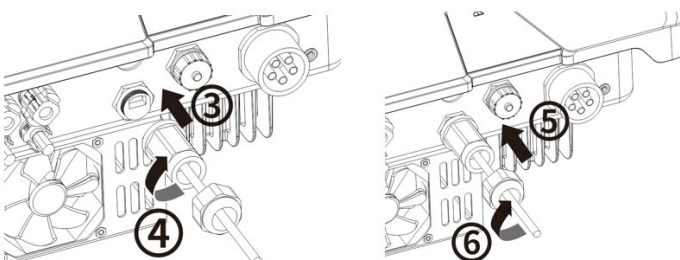

Fig. 36. Insert the network cable
3. Insert network connector into the communication connection of the device (Pos. 3/5) and tighten the thread sleeve. Then tighten the forcing nut (Pos. 4/6) (see Fig. 36.)